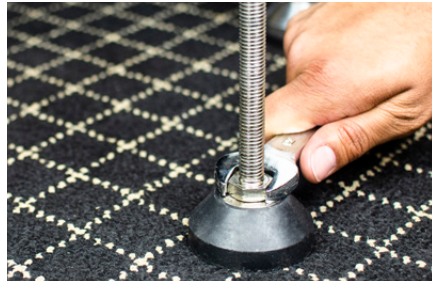

Figure 51
3. Level the table support legs by rotating each leg counterclockwise until they reach the floor. Then, tighten each nut. **See Figure 51.**